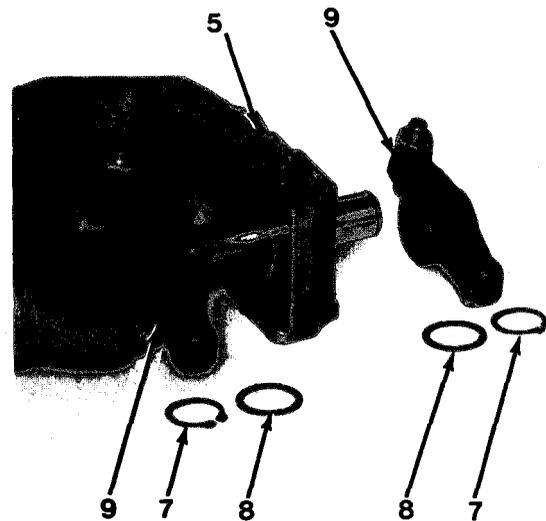

Figure 6-3
1. Remove two retaining rings (7), thrust washers (8) and intake and exhaust rocker levers (9) from reeker shaft support assemblies (5, Figure 6-3).